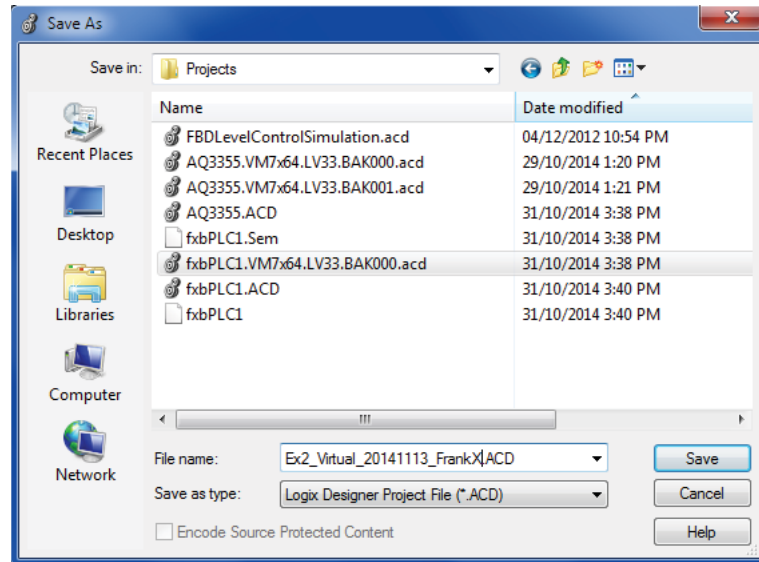

Figure 110. Saving the file under a different name.
22. Save your program under a new name (*File ► Save As...*) as shown in Figure 110.